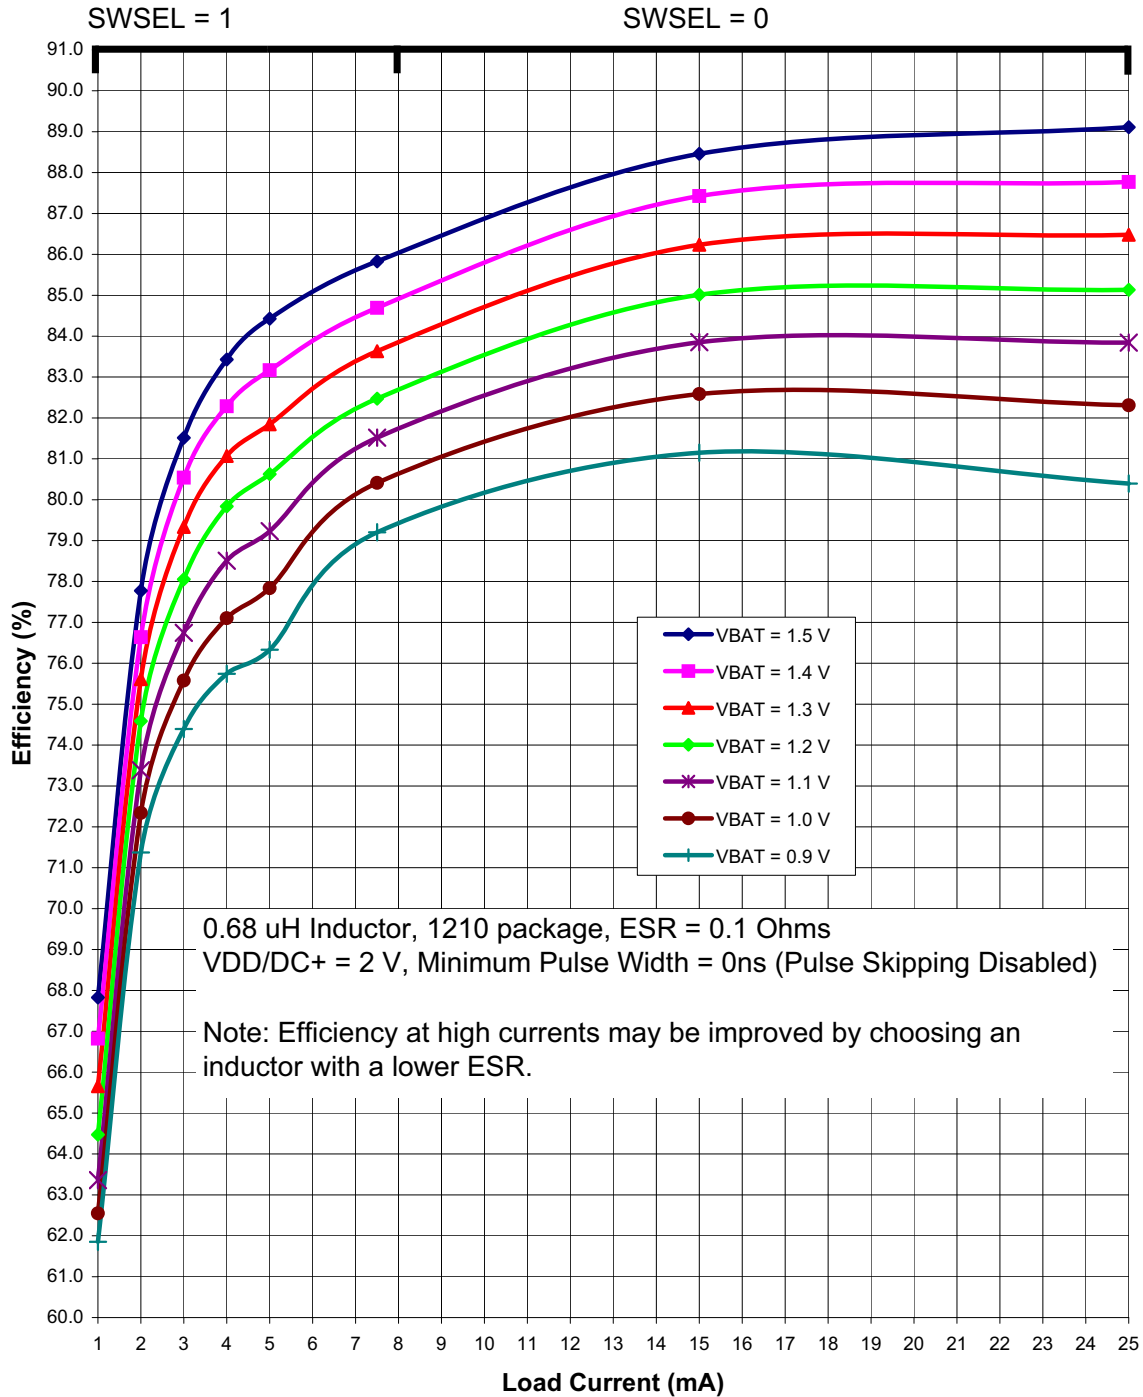
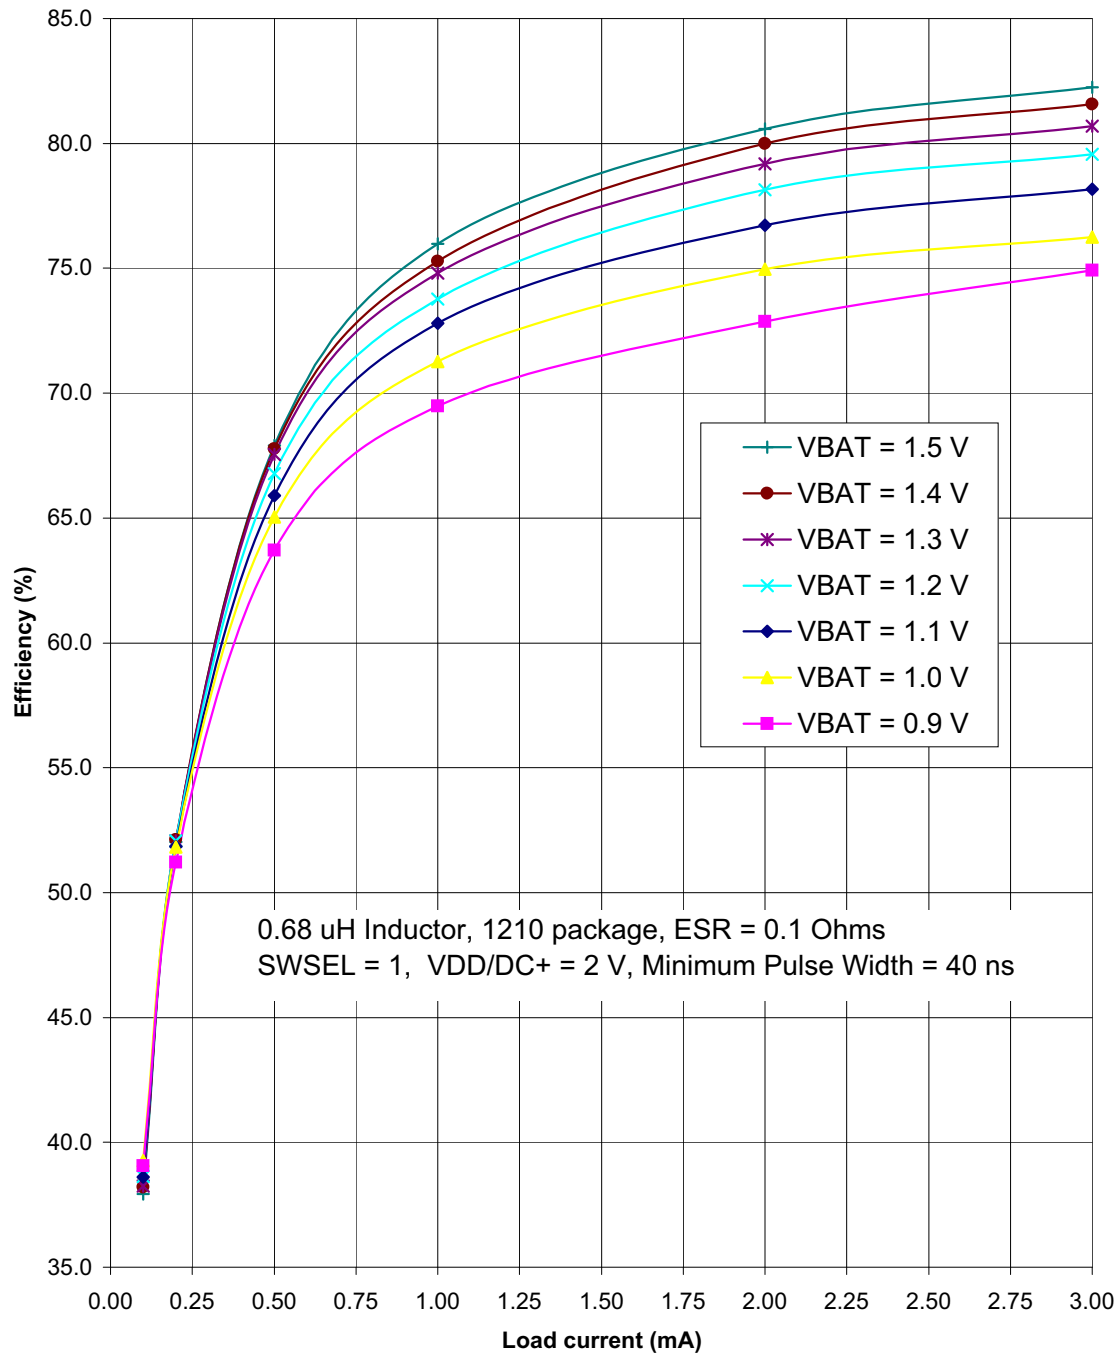

Figure 4.3. Typical DC-DC Converter Efficiency (High Current, VDD/DC+ = 2 V)
Figure 4.5. Typical DC-DC Converter Efficiency (Low Current, VDD/DC+ = 2 V)
Notes: - Based on device characterization data; Not production tested. - SYSCLK must be at least 32 kHz to enable debugging. - Digital Supply Current depends upon the particular code being executed. The values in this table are obtained with the CPU executing an "sjmp \$" loop, which is the compiled form of a while(1) loop in C. One iteration requires 3 CPU clock cycles, and the flash memory is read on each cycle. The supply current will vary slightly based on the physical location of the sjmp instruction and the number of flash address lines that toggle as a result. In the worst case, current can increase by up to 30% if the sjmp loop straddles a 128-byte flash address boundary (e.g., 0x007F to 0x0080). Real-world code with larger loops and longer linear sequences will have few transitions across the 128-byte address boundaries. - Includes oscillator and regulator supply current. - IDD can be estimated for frequencies ≤10 MHz by simply multiplying the frequency of interest by the frequency sensitivity number for that range, then adding an offset of 90 µA. When using these numbers to estimate IDD for >10 MHz, the estimate should be the current at 25 MHz minus the difference in current indicated by the frequency sensitivity number. For example: VDD = 3.0 V; F = 20 MHz, IDD = 4.1 mA – (25 MHz – 20 MHz) x 0.120 mA/MHz = 3.5 mA. - The Supply Voltage is the voltage at the VDD_MCU pin, typically 1.8 to 3.6 V (default = 1.9 V). Idle IDD can be estimated by taking the current at 25 MHz minus the difference in current indicated by the frequency sensitivity number. For example: VDD = 3.0 V; F = 5 MHz, Idle IDD = 2.5 mA – (25 MHz – 5 MHz) x 0.095 mA/MHz = 0.6 mA. - The supply current specifications in Table 4.2 are for two cell mode. The VBAT current in one-cell mode can be estimated using the following equation: $\text{VBAT Current (one-cell mode)} = \frac{\text{Supply Voltage} \times \text{Supply Current (two-cell mode)}}{\text{DC-DC Converter Efficiency} \times \text{VBAT Voltage}}$ The VBAT Voltage is the voltage at the VBAT pin, typically 0.9 to 1.8 V. The Supply Current (two-cell mode) is the data sheet specification for supply current. The Supply Voltage is the voltage at the VDD/DC+ pin, typically 1.8 to 3.3 V (default = 1.9 V). The DC-DC Converter Efficiency can be estimated using Figure 4.3–Figure 4.5. - The radio peripheral is placed in Shutdown mode.